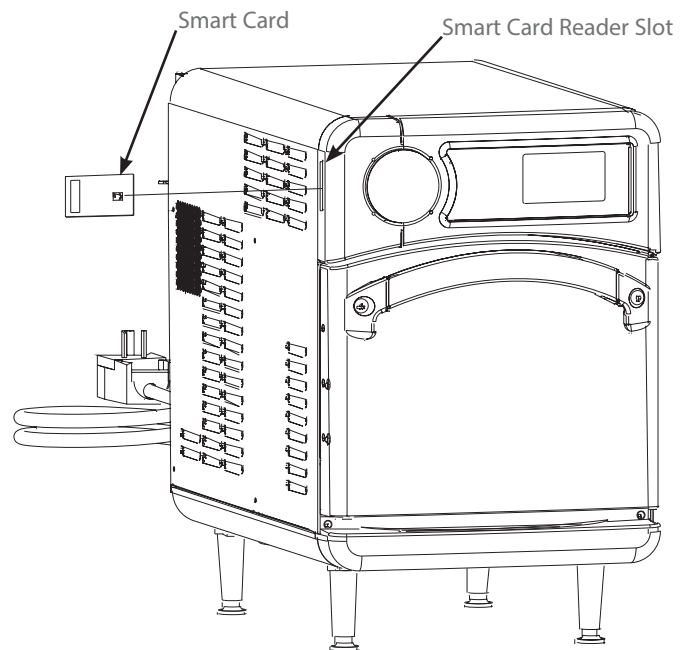

Figure 23: Inserting Smart Card
3. Insert the smart card (Figure 23).
1. Insert the gray smart card “1 of 3” (Figure 23, page 16).